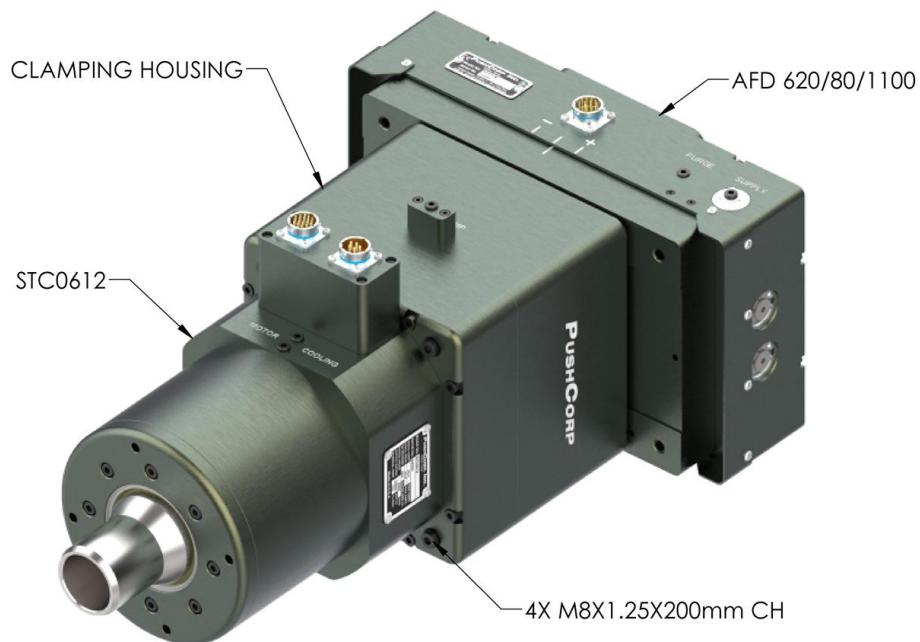

FIGURE 3: 0612-PERPENDICULAR-AXIS-CONFIGURATION
To attach the 0612 to an AFD in a Perpendicular-Axis configuration, position the Clamping Housing/Mounting Plate over the Carriage as shown in Figure 3. Then secure the unit using four (4), M8x1.25 Socket Head Cap Screws. Tighten the fasteners to the torque specified in Section 4.0.